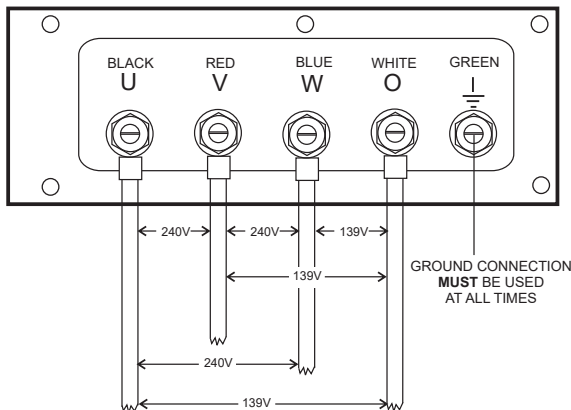

Figure 21. UVWO Terminal Lugs (3-Phase 240-Volt Connections)
2. Connect the load wires to the **UVWO terminal lugs** as shown in Figure 21.